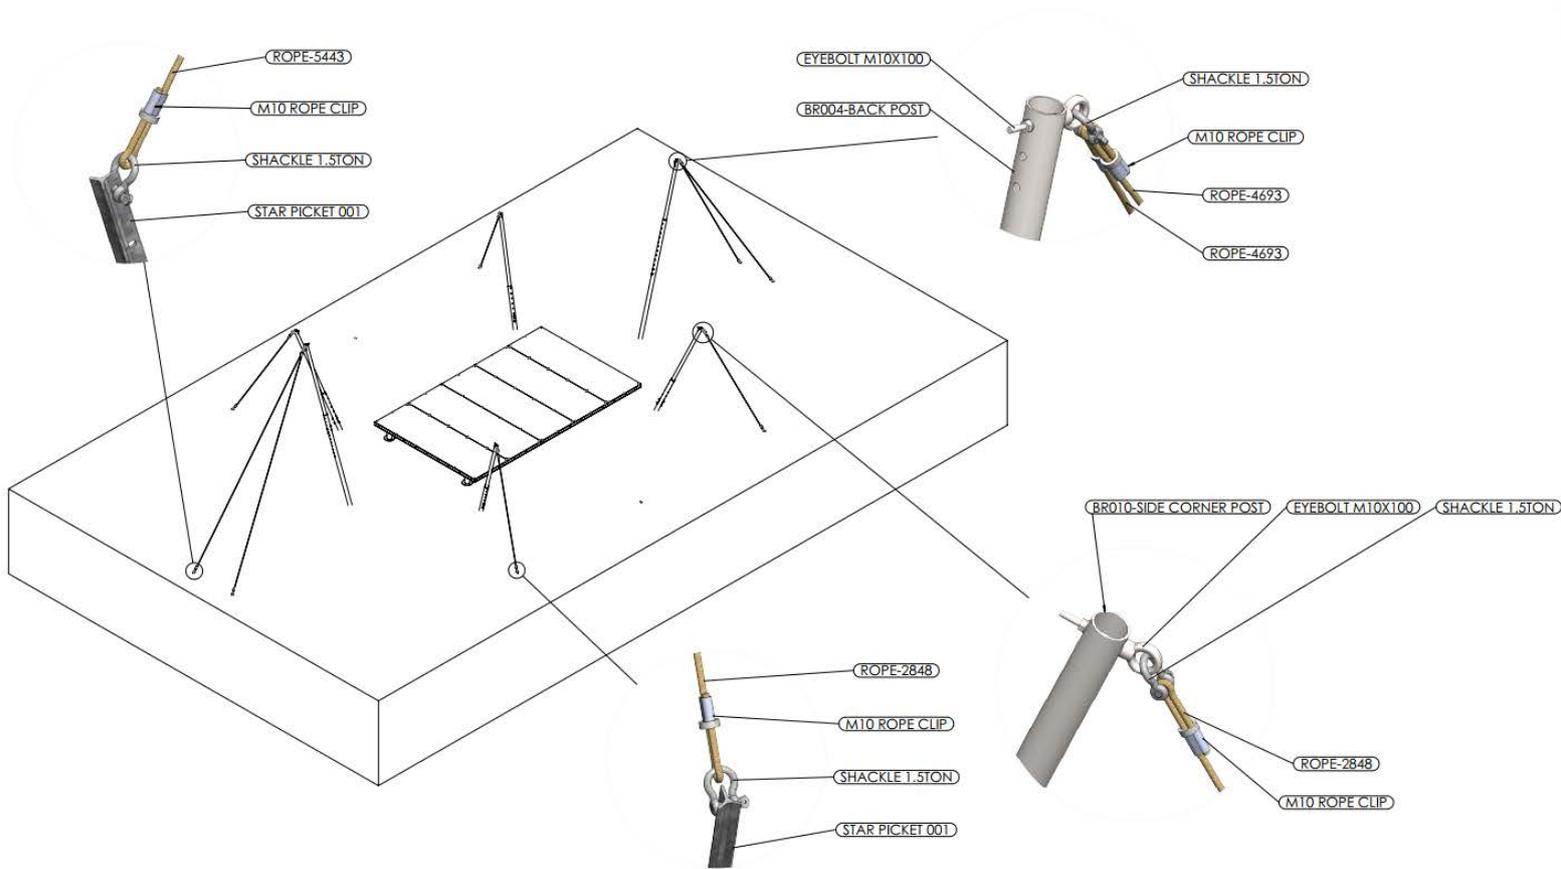

Figure 9: Post and Tension Rope Connection Details
3. Connect all tension ropes that link the posts to the ground, but do not tension them until the PVC installation step (Figure 9).